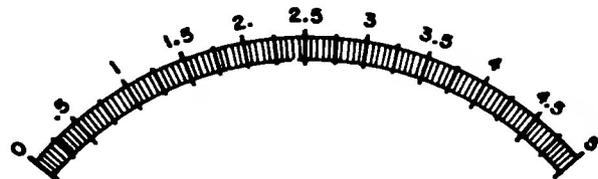

Figure 2-4. A Representative Linear Meter Scale
(2) By way of comparison, note that on the linear meter scale illustrated in figure 2-4, the change from 0.5 volt to 1 volt gives only one-third of the change in deflection which is obtained for the same 100% change from 1.5 to 3 volts. Thus the accuracy of reading is considerably smaller at low values on a linear scale.